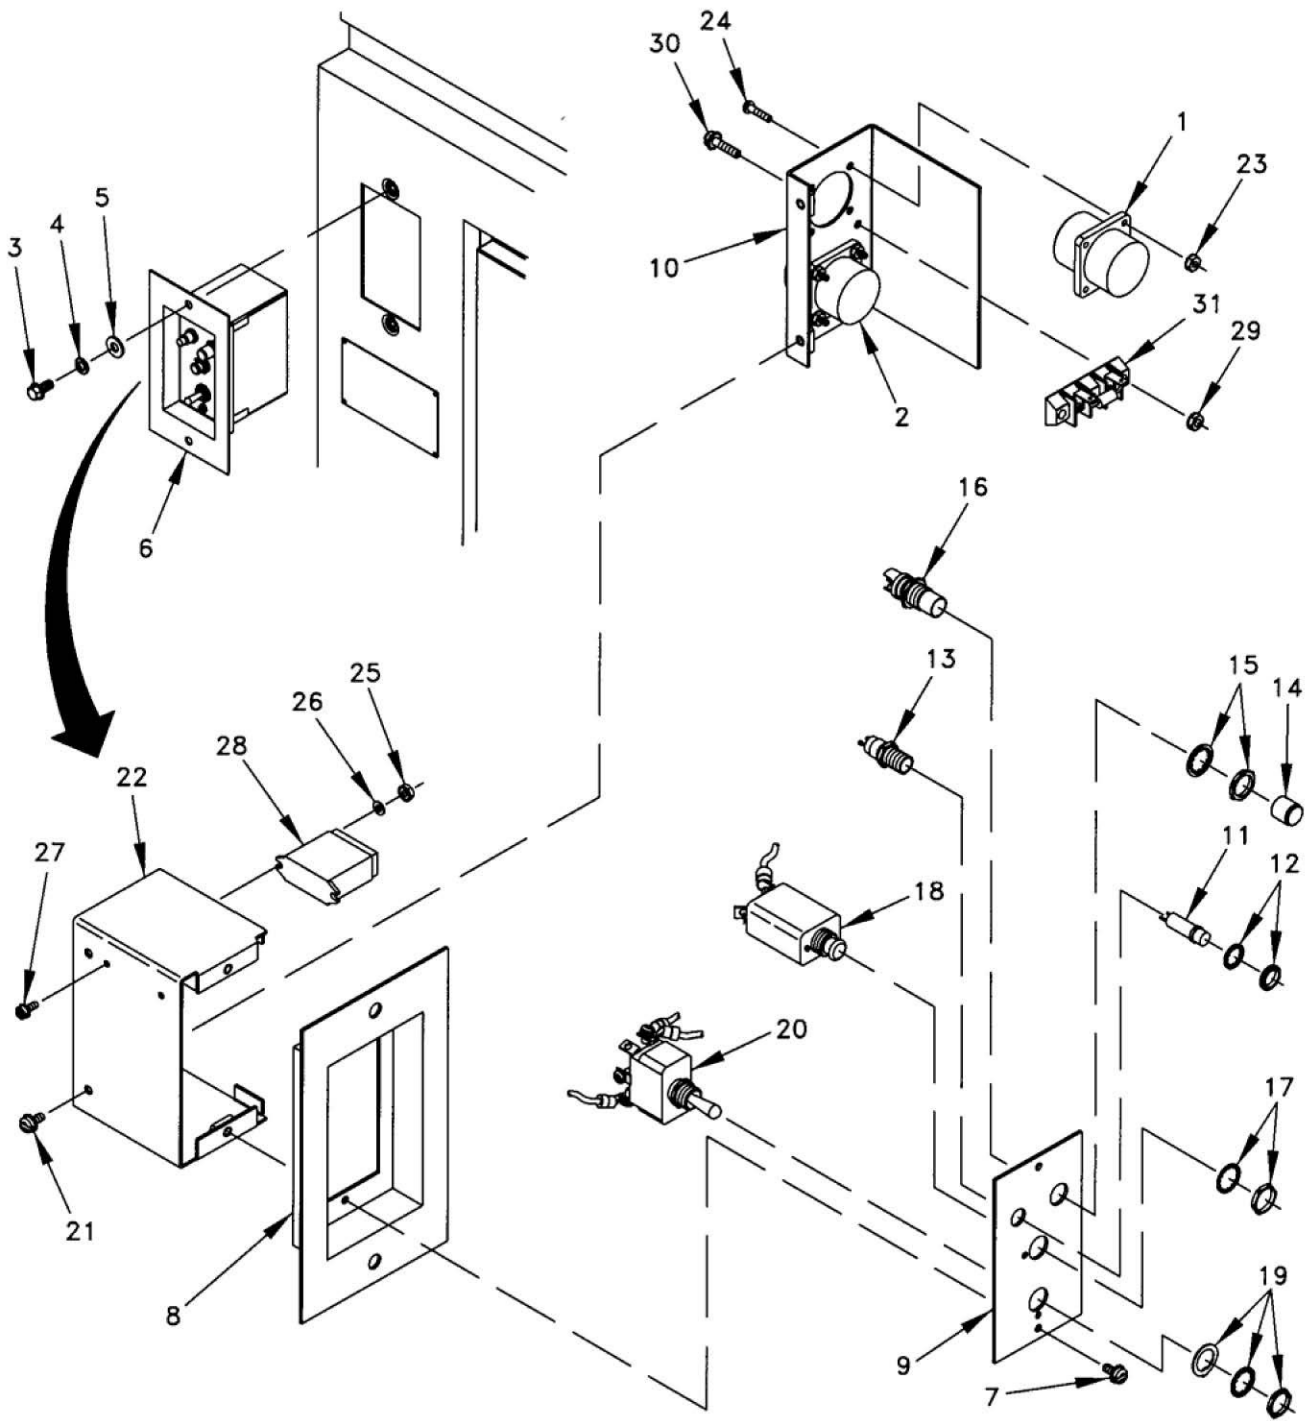

Figure 1. Winterization Heater Control Box Assembly.
3. Disconnect connector P26 from connector J26 (Figure 1, Item 1) and connector P27 from connector J27 (Figure 1, Item 2) of winterization heater control box assembly.
4. Remove two screws (Figure 1, Item 3), lock washers (Figure 1, Item 4), and washers (Figure 1, Item 5), and remove winterization heater control box assembly (Figure 1, Item 6) from rear of generator housing.
1. Remove two screws (Figure 1, Item 7), control box mounting bracket (Figure 1, Item 8), and control box faceplate (Figure 1, Item 9) from control box frame (Figure 1, Item 10).
2. Remove collar (Figure 1, Item 11), jam nut and lock washers (Figure 1, Item 12), and LED holder (Figure 1, Item 13) from control box faceplate (Figure 1, Item 9).
3. Remove lens cap (Figure 1, Item 14), jam nut and lock washers (Figure 1, Item 15), and press-test indicator light (Figure 1, Item 16) from control box faceplate (Figure 1, Item 9).
4. Remove jam nut and lock washers (Figure 1, Item 17) and circuit breaker (Figure 1, Item 18) from control box faceplate (Figure 1, Item 9).
5. Remove jam nut and lock washers (Figure 1, Item 19) and toggle switch (Figure 1, Item 20) from control box faceplate (Figure 1, Item 9).
6. Remove two screws (Figure 1, Item 21) and control box cover (Figure 1, Item 22) from control box frame (Figure 1, Item 10).
7. Remove eight nuts (Figure 1, Item 23), screws (Figure 1, Item 24), connector J26 (Figure 1, Item 1) and J27 (Figure 1, Item 2) from control box frame (Figure 1, Item 10).
8. Remove two nuts (Figure 1, Item 25), washers (Figure 1, Item 26), screws (Figure 1, Item 27), and relay (Figure 1, Item 28) from control box frame (Figure 1, Item 10).
9. Remove two nuts (Figure 1, Item 29), screws (Figure 1, Item 30), and terminal block and rectifier assembly (Figure 1, Item 31) from control box frame (Figure 1, Item 10).
1. Install terminal block and rectifier assembly (Figure 1, Item 31) on control box frame (Figure 1, Item 10) with two screws (Figure 1, Item 30) and nuts (Figure 1, Item 29).
2. Install relay (Figure 1, Item 28) on control box frame (Figure 1, Item 10) with two screws (Figure 1, Item 27), washers (Figure 1, Item 26) and nuts (Figure 1, Item 25).